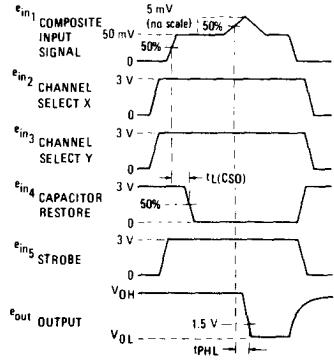

FIGURE 8 —  $t_{PLH}(CS)$ ,  $t_{PHL}(CS)$
- $t_{PLH}(CS)$  The delay time from the 50% level of the trailing edge of the channel select signal to the 1.5 volt level of the positive edge of the output when the input to the selected channel is held at the "1" level as shown in Figure 8
- $t_{PHL}(CS)$  The delay time from the 50% level of the leading edge of the channel select signal to the 1.5 volt level of the negative edge of the output when the input to the selected channel is held at the "1" level as shown in Figure 8